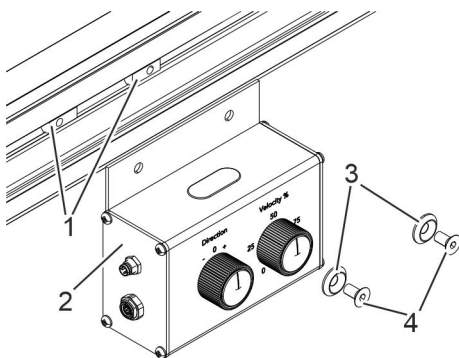

Fig. 25: Installing MonTurn
1. ➤ Swivel two slot nuts (Fig. 25/1) into the lateral profile.
2. ➤ Fasten the MonTurn (Fig. 25/2) to the slot nuts (Fig. 25/1) using two countersunk screws (Fig. 25/4) and washers (Fig. 25/3).